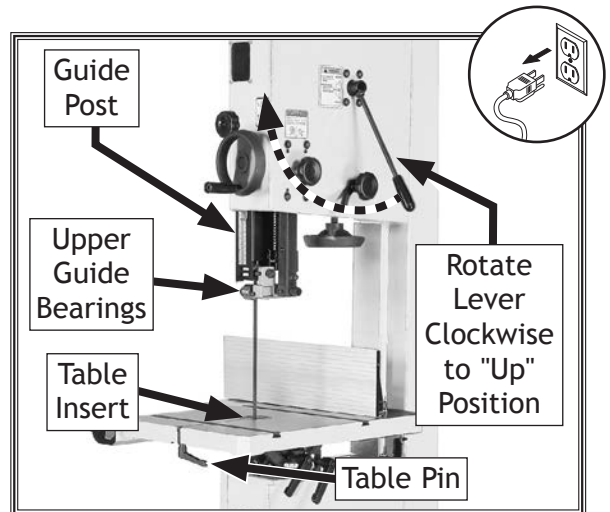

Figure 71. Blade changing controls.
2. Release blade tension by rotating blade tension quick-release lever (see Figure 71) clockwise to up position.
3. Remove table insert and table pin. Adjust upper and lower guide bearings as far away as possible from blade (see Figure 71).